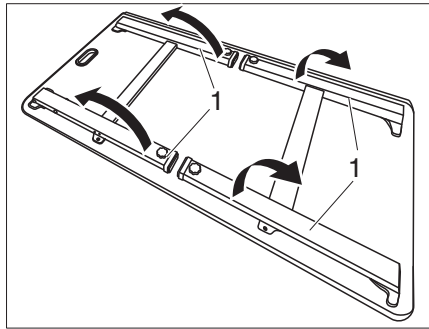
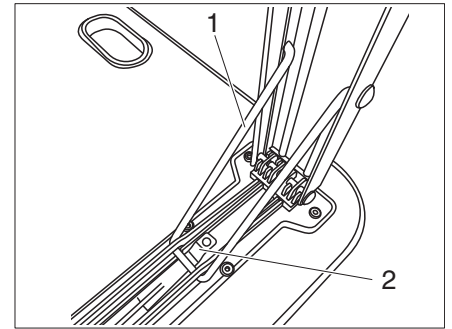

Fig. 35 Underside of the table
Fig. 36 Lock
- Lift all table feet (Fig. 35,1), until the bar (Fig. 36,1) locks into the latch.
- Press on the catch (Fig. 36,2) and push the table feet downwards (Fig. 35,1).